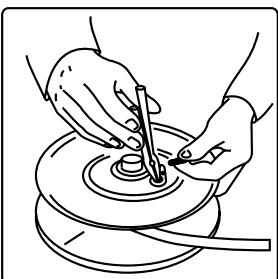
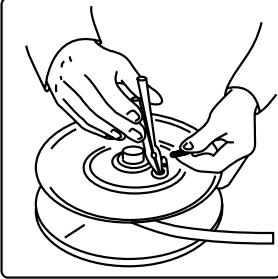

fig. 4d
fig. 5d
4. Turn the drum upside down and remove the latch and the latch spring (part nr 500110 and 500111,figure 4d); Turn the drum upside down and take the spring hub out of the drum (part nr 500115 and 500116, fig 5d).